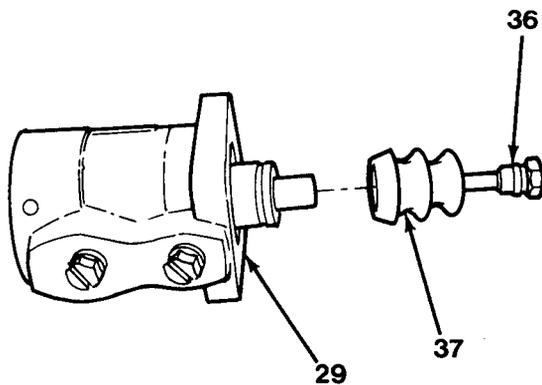

Figure 17-5
3. Remove push rod (36) and boot (37, Figure 17-5). Discard boot (37).